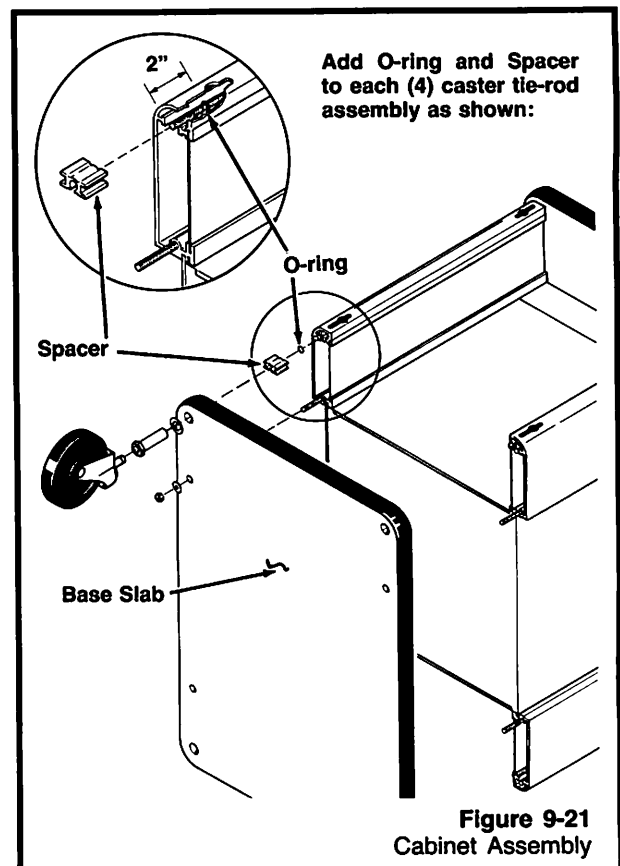

Figure 9-21
N. Base Slab Replacement Figure 9-21
5. Pull off casters and remove four (4) hex head caster mounting sockets.
6. Remove four (4) hex nuts and washers.
8. Place an 'O' Ring (210-0410-300) on each caster mounting tie-rod, two (2) inches from end (refer to Figure 9-21).